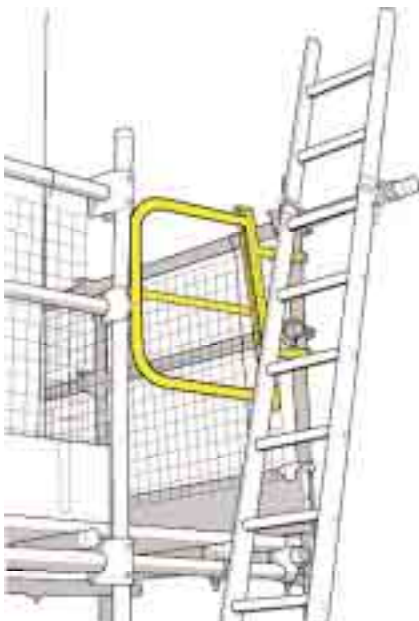

Figure 8 Access ladders should be tied and extend at least 1 m above the landing point to provide a secure handhold
15 **Ladders** used for access to another level should be tied (see Figure 8). **Stepladders** should not be used for access to another level unless they have been designed for this.
- ladders used for access should project at least 1 m above the landing point and be tied; alternatively a safe and secure handhold should be available (see Figure 8);